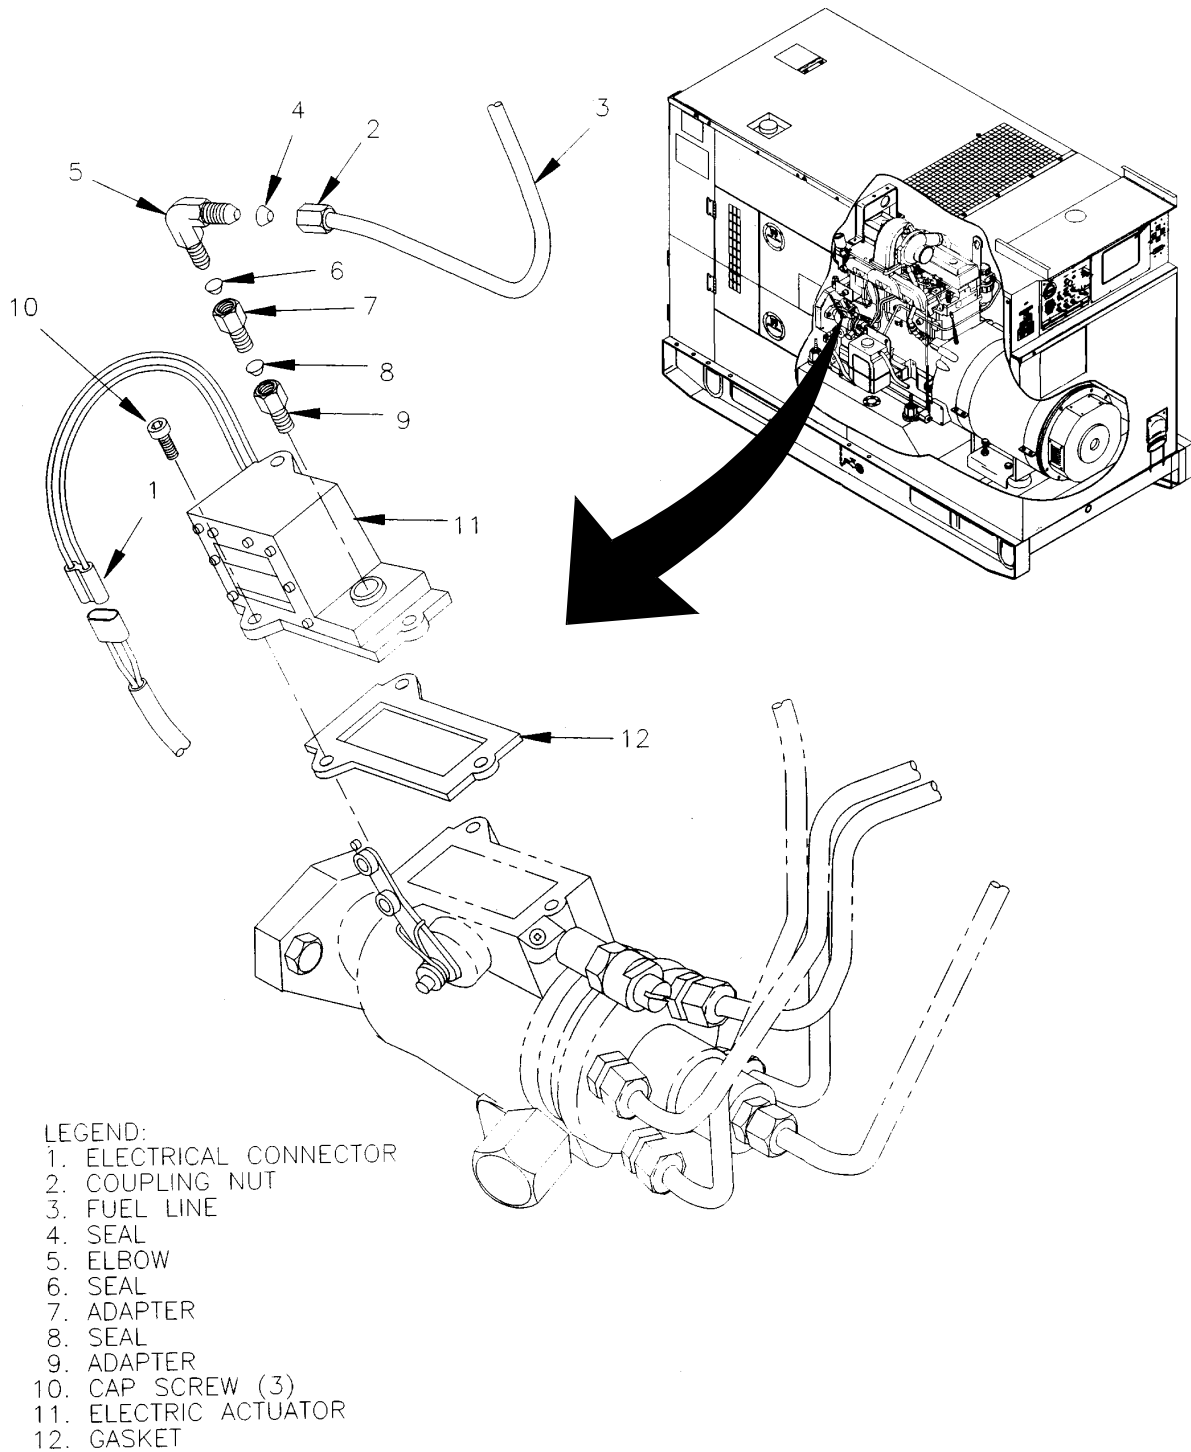
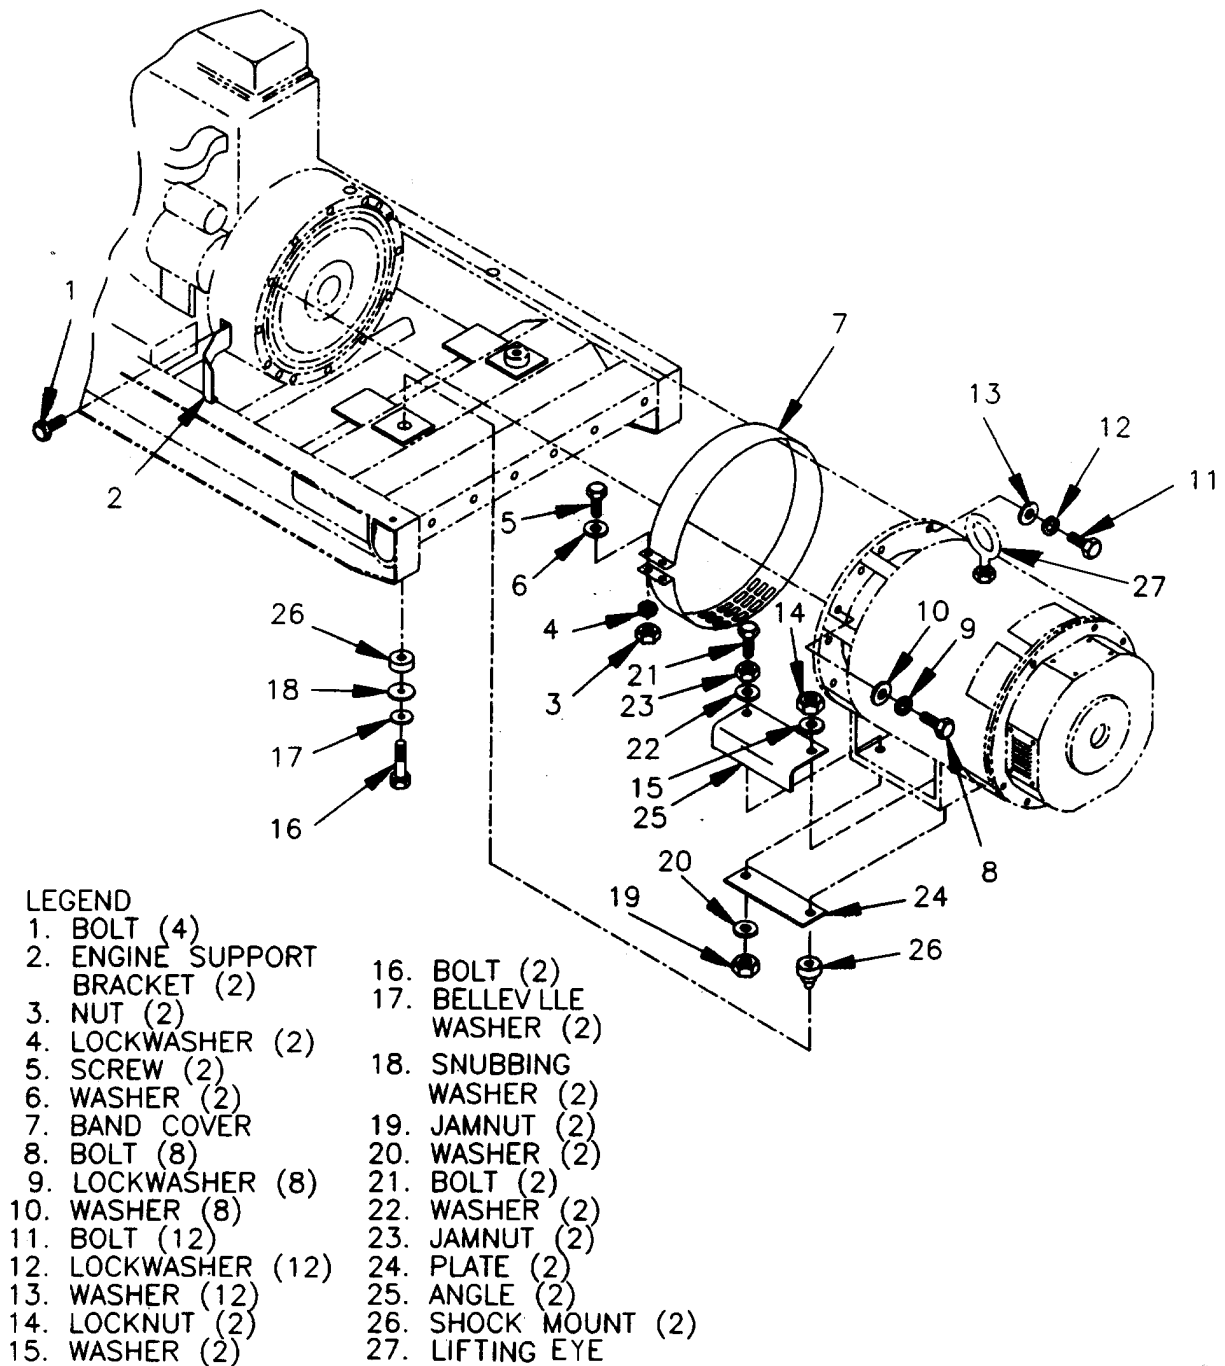

FIGURE 5-7. ELECTRIC ACTUATOR
FIGURE 5-8. GENERATOR ASSEMBLY REMOVAL
Inspect electric actuator (11, Figure 5-7) for corrosion, dents, missing hardware, and obvious damage.
- (3) Disconnect output box wiring harness from electrical connector (1, Figure 5-7).
- (4) Set multimeter for ohms. Test continuity at contacts within electrical connector (1). Multimeter should indicate continuity.
- (5) If multimeter reading is other than above, replace electric actuator (11, Figure 5-8).
- (6) Connect electrical connector (1) to output box wiring harness.
- (7) Connect negative battery cable to battery, and close BATTERY ACCESS door.
- (5) Disconnect output box wiring harness from electrical connector (1, Figure 5-7).
- (6) Loosen coupling nut (2), and remove fuel line (3) and seal (4) from elbow (5).
- (7) Remove elbow (5), seal (6), adapter (7), seal (8), and adapter (9) from electric actuator (11).
- (3) Remove output box assembly, paragraph 5.8.1.
- (4) Remove rear housing section, paragraph 4.7.5.
- (5) Remove load output terminal board, paragraph 4.12.8.
- (6) Remove rear forklift guide. Refer to paragraph 5.11.1.
- (7) Loosen bolts (1, Figure 5-8), and lower engine support brackets (2) to contact skid base.
- (8) Tighten bolts. If necessary, place wooden shims under brackets to ensure contact.
- (1) Position shock mounts (26, Figure 5-8) on skid base.
- (2) Install angles (25), plates (24), jamnuts (23), washers (22), bolts (21), washers (20), and jamnuts (19) on generator. Do not tighten jamnuts.